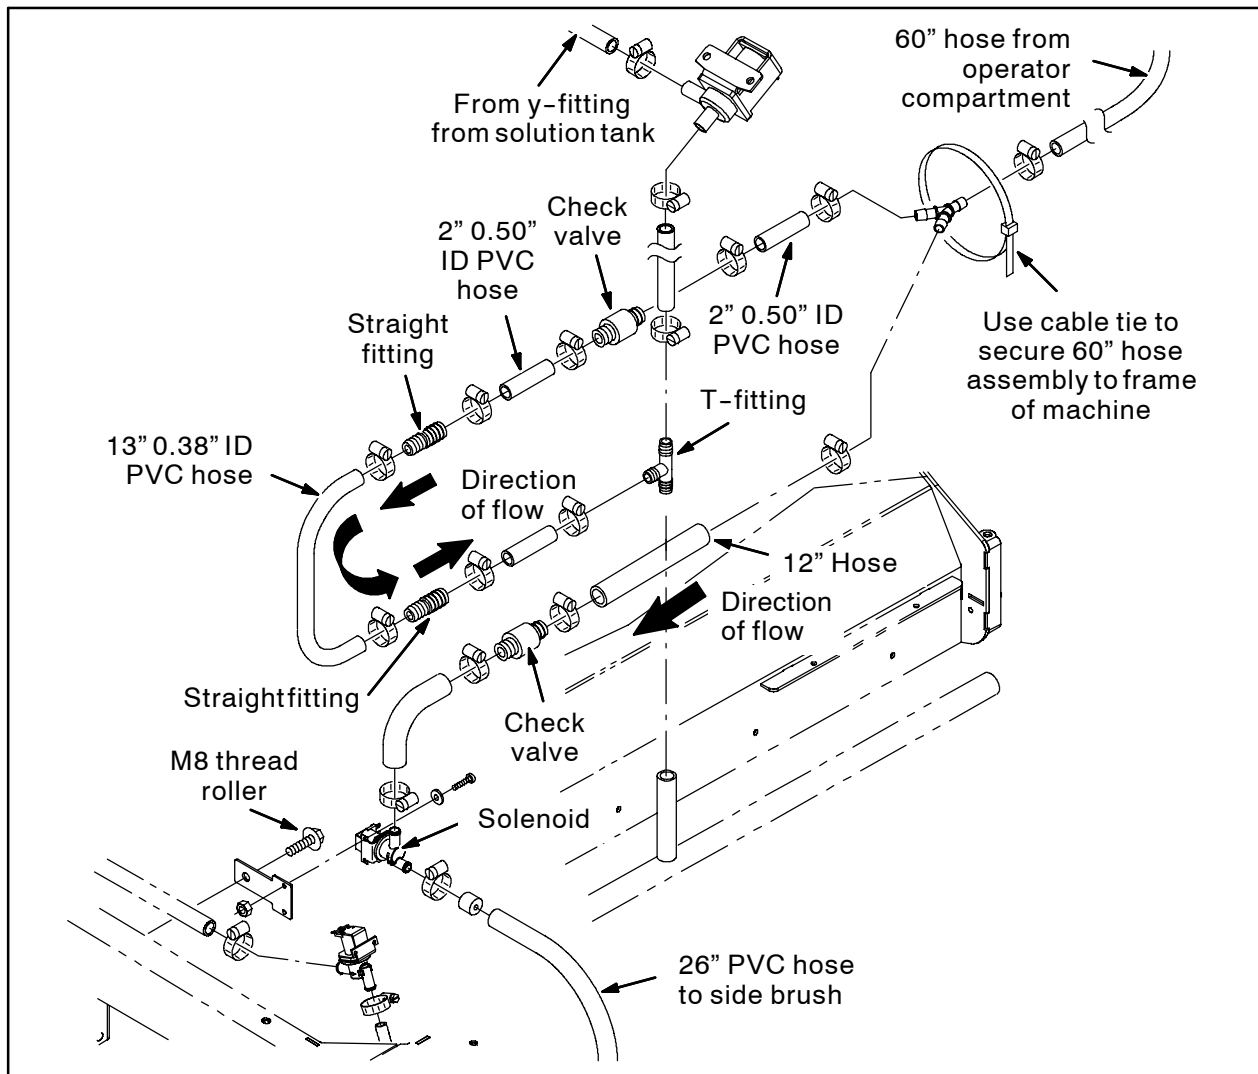

FIG. 9
24. Assemble the check valve, straight fittings, 13" hose, and 2" hoses as shown in Fig. 9. Note the direction of flow.
25. Use a hose clamp to attach the hose assembly assembled in the previous step to the y-fitting connected to the 60" 0.50 ID PVC hose. Refer to Fig. 9.
26. Use two M5 pan screws, two flat washers, and two M5 hex nuts to install the solenoid onto the solenoid bracket. Refer to Fig. 9.
27. Use a M8 thread roller to install the solenoid / solenoid bracket onto the frame of the machine. Refer to Fig. 9.
29. Cut the bent hose 12" from the longer end of the hose. Refer to Fig. 9.
30. Use two hose clamps to install a check valve between the two sections of hose cut in the previous step. Note the direction of flow. Refer to Fig. 9.
31. Use a hose clamp to connect the trimmed hose to the solenoid. Refer to Fig. 9.
32. Use a hose clamp to connect the other end of the trimmed hose to the y-fitting connected to the 60" PVC hose from the operator compartment. Refer to Fig. 9.
33. Use a hose clamp to connect a 26" PVC hose to the solenoid. Refer to Fig. 9.